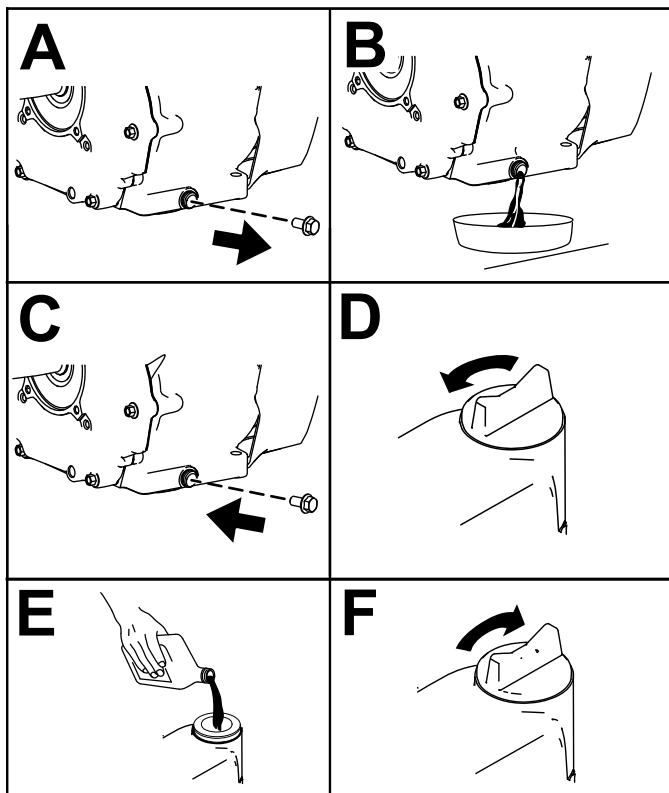

Figure 31
5. Change the engine oil as shown in Figure 31.